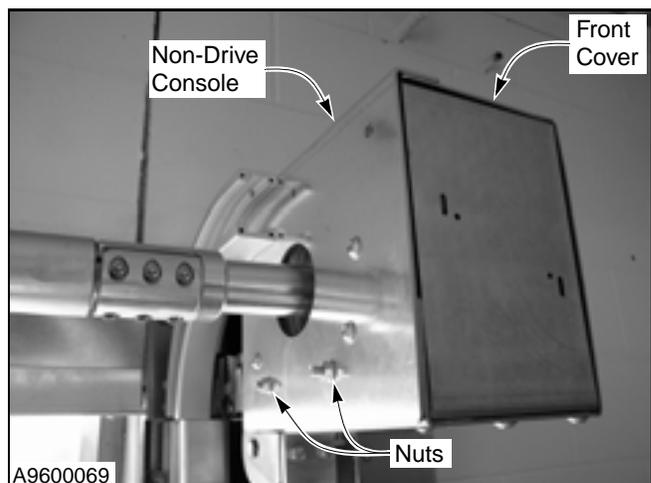

Figure 38
2. Loosen the two nuts on the side of the console. (See Figure 38.)